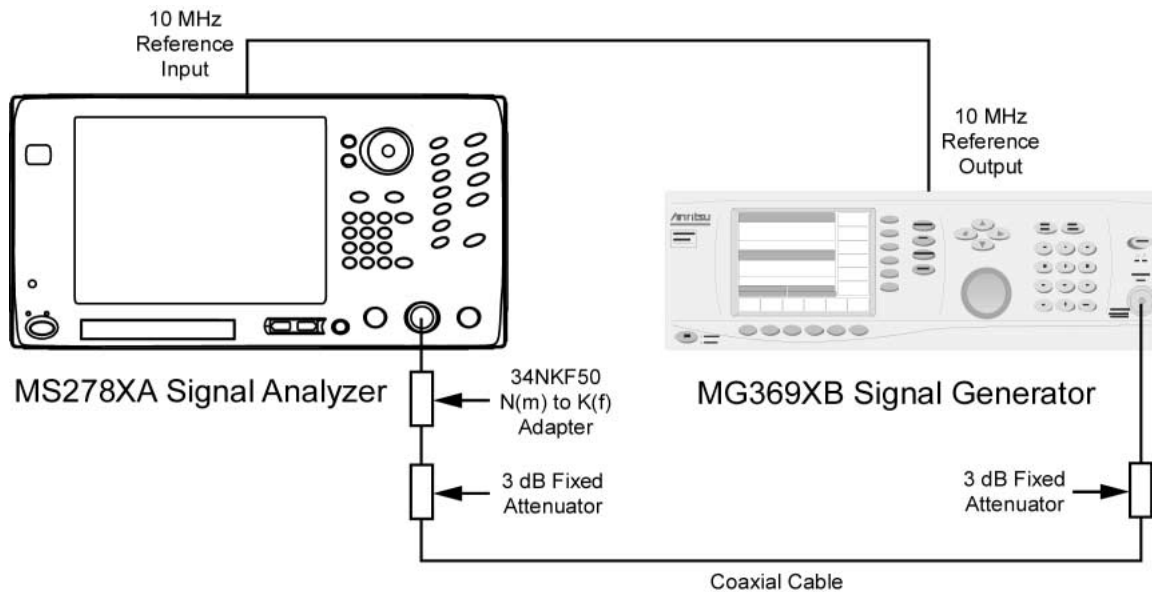

Figure 6-42. Equipment Setup for Frequency Span Accuracy Test
- Step 1.** Set up the instruments as shown in Figure 6-42.